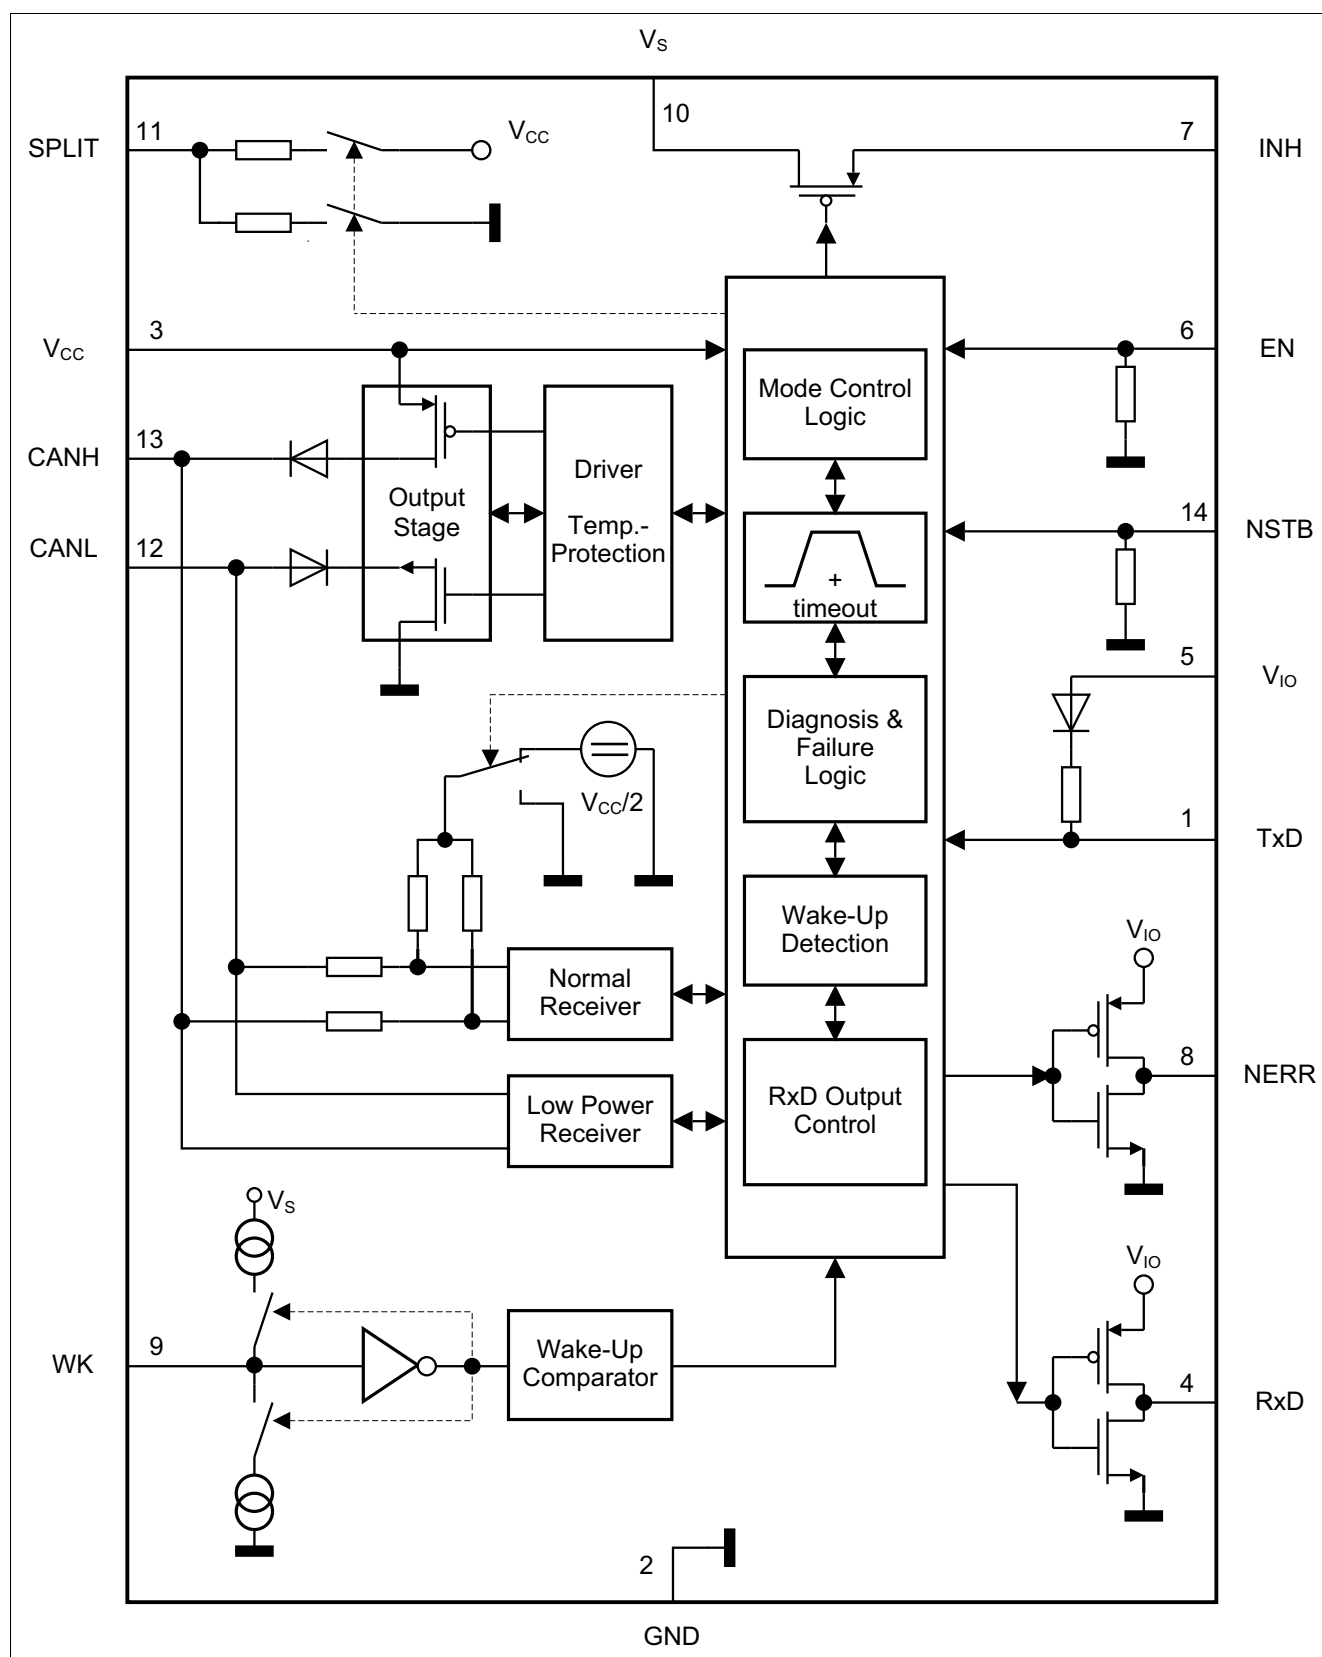
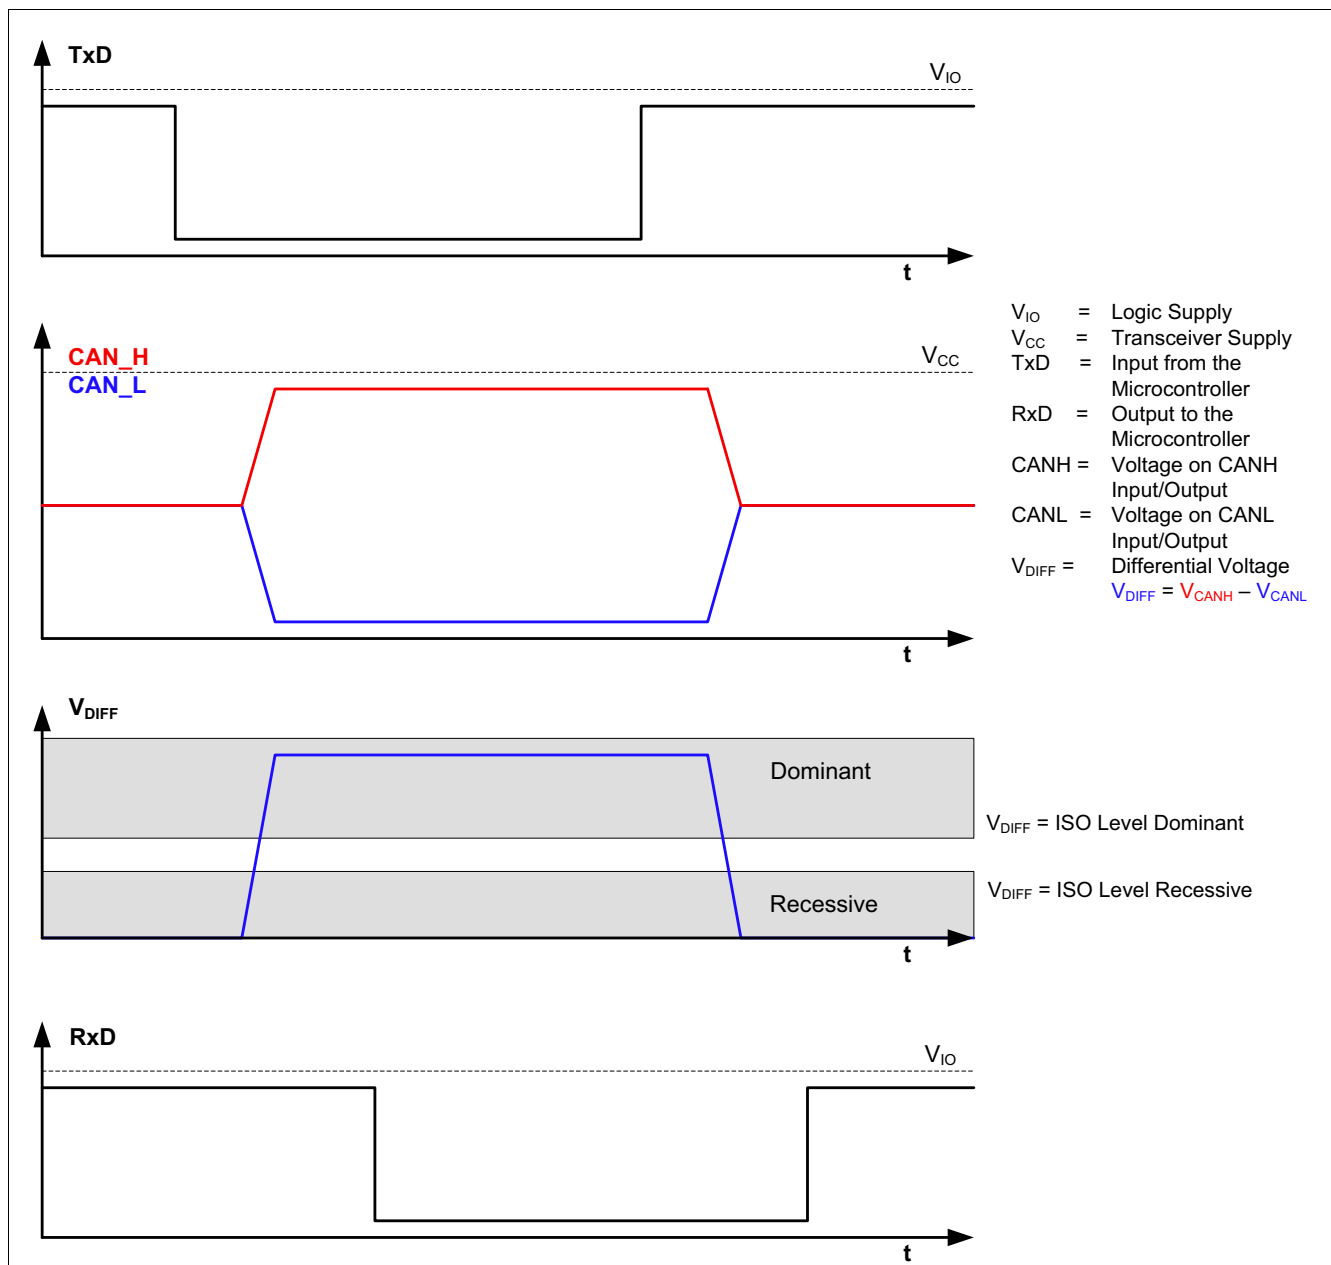

Figure 1 Block Diagram
Figure 3 High Speed CAN Bus Signals and Logic Signals
The TLE6251-2G is a High Speed CAN transceiver, operating as an interface between the CAN controller and the physical bus medium. A High Speed CAN network (abbreviated HS CAN) is a two wire differential network which allows data transmission rates up to 1 Mbaud. Characteristic for a HS CAN network are the two CAN bus states “Dominant” and “Recessive” (see Figure 3).
The input TxD and the output RxD are connected to the microcontroller of the ECU. As shown in Figure 1, the HS CAN transceiver TLE6251-2G has a receive unit and a output stage, allowing the transceiver to send data to the bus medium and monitor the data from the bus medium at the same time. The HS CAN TLE6251-2G converts the serial data stream available on the transmit data input TxD into a differential output signal on CAN bus. The differential output signal is provided by the pins CANH and CANL. The receiver stage of the TLE6251-2G monitors the data on the CAN bus and converts them to a serial data stream on the RxD pin. A logical “Low” signal on the TxD pin creates a “Dominant” signal on the CAN bus, followed by a logical “Low” signal on the RxD pin (see Figure 3). The feature, broadcasting data to the CAN bus and listening to the data traffic on the CAN bus simultaneous is essential to support the bit to bit arbitration on CAN networks.
- Through the internal resistors R_I (see Figure 1), the pins CANH and CANL are connected to GND.